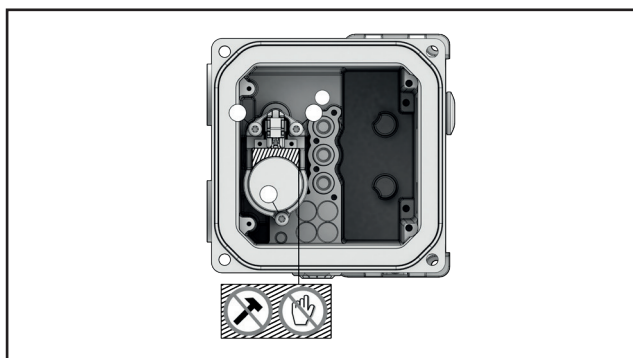

Fig. 80. NDX\_511\_ and NDX\_512\_
- Pull out the prestage carefully. It is recommended to use pliers to grab the grooves on the sides of the prestage. Be careful not to touch the moving parts of the prestage. (Fig. 80)